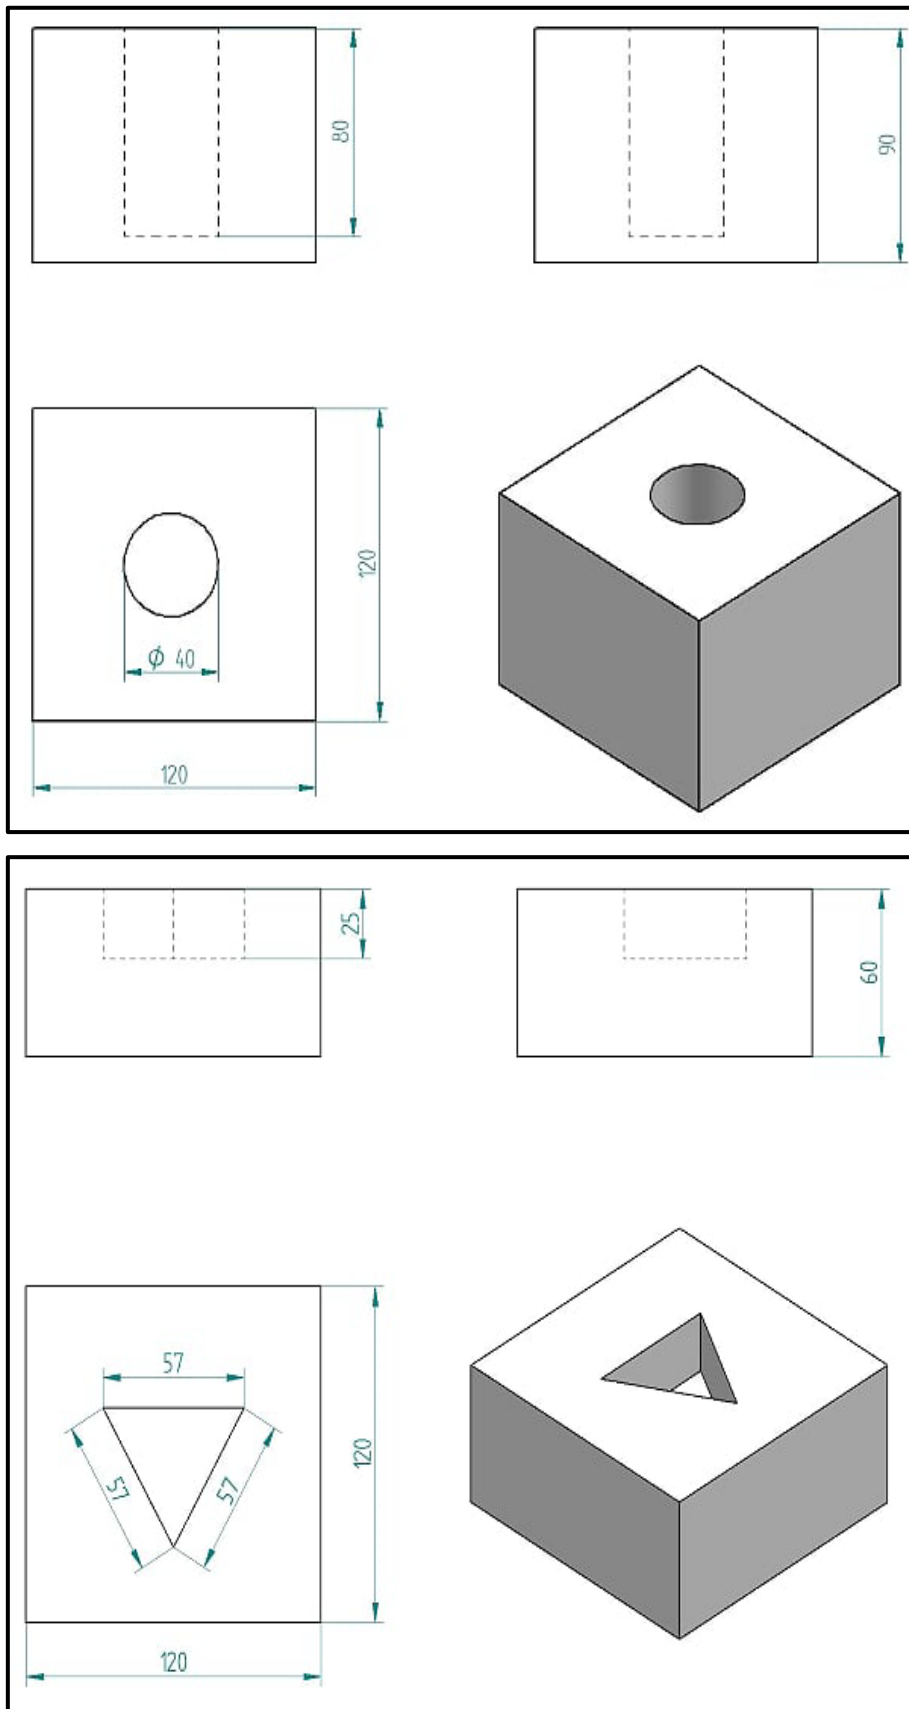

Figure 5- Platform dimensions
- There is only one platform to use in this competition and its dimensions are given at figure 5. Platform parts will be produced with 3D printer by using PLA material.
- Platform consists of 10 parts. Dimensions are given at figure 5.